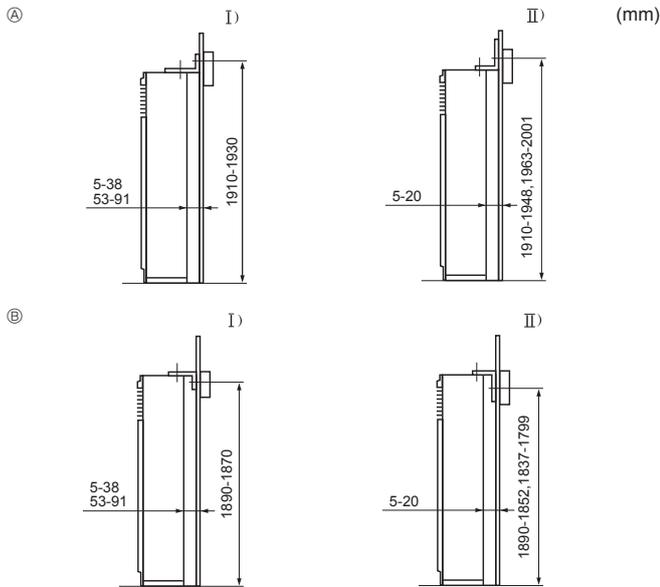

Fig. 3-3
- ① Tip-over prevention bracket
The tip-over prevention bracket ① is set on the top surface of the unit. Remove the tapping screws ②, and then reinstall the bracket, as shown in the illustration. For the proper installation distances, see Fig. 3-3.
- Ⓨ Remove the screw ③ and then pull the grill forward to remove it.
3.3. Mounting the tip-over prevention bracket (Fig. 3-3)